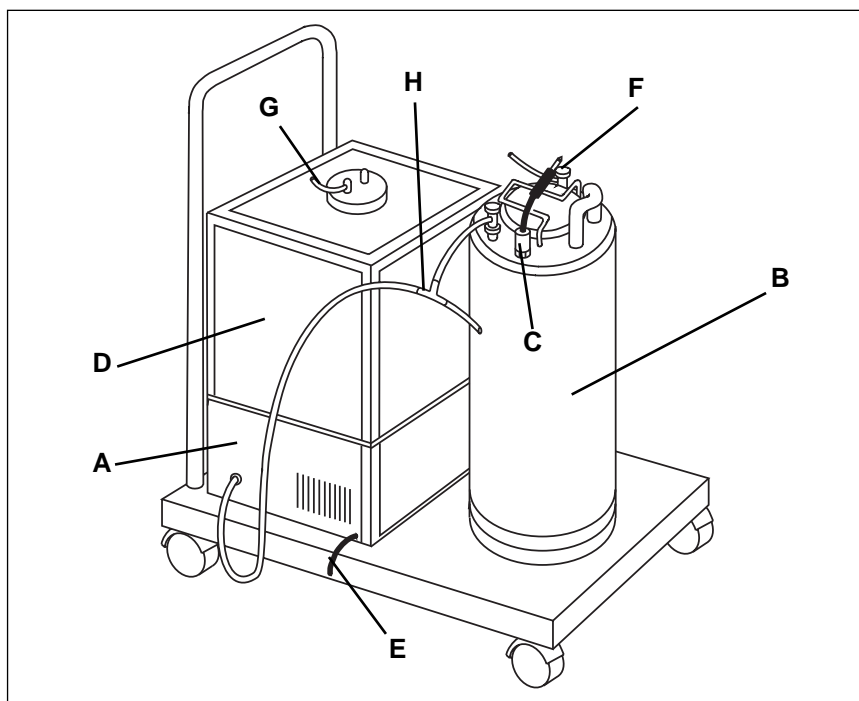

Figure 1.11
The compressor cart (Figure 1.11) consists of a compressor (A), regulator, wash water canister (B) with level sensor (C), and a waste container (D). The cart itself is mounted on lockable wheels and includes a handle to allow for easy movement of the assembly. The PPC uses an air compressor to wash wells under pressure. The PPC controls the AC power to the compressor and is activated by software at the start of a wash operation. The compressor shuts off three to five minutes after the last wash operation. In some models, a switch turns the compressor on and off in response to air pressure.